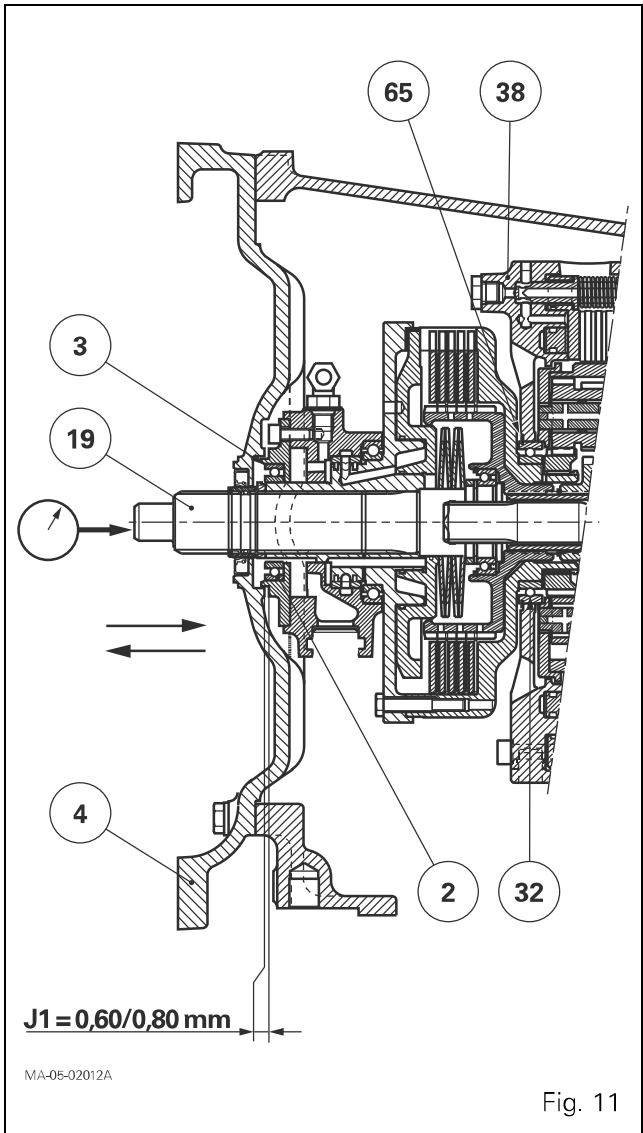

Fig. 11
This operation consists in obtaining an end play J1 of 0.60 to 0.80 mm between the pump cover (2) and the spacer (4) (Fig. 11).
61. Fit a 2 mm shim (3) on cover (2) (Fig. 11).
62. Lubricate the lip of seal (10). Protect the lip of the seal by fitting a protector (see section 3) on the splines of the shaft (19). Fit two guide screws on opposite sides of the gearbox housing and temporarily fit the spacer (4) without Loctite. Gradually tighten several screws.
63. Place a dial gauge at the end of shaft (19) and check the clearance by moving the shaft sideways (Fig. 11).
Note: Check that the snap ring (65) of the bearing (32) is correctly in contact with the cover (38) (Fig. 11).
64. Remove spacer (4). Depending on the reading previously obtained with the dial gauge, define a new thickness for shim(s) (3) in order to obtain a **J1 clearance of between 0.60 mm and 0.80 mm** (Fig. 11).